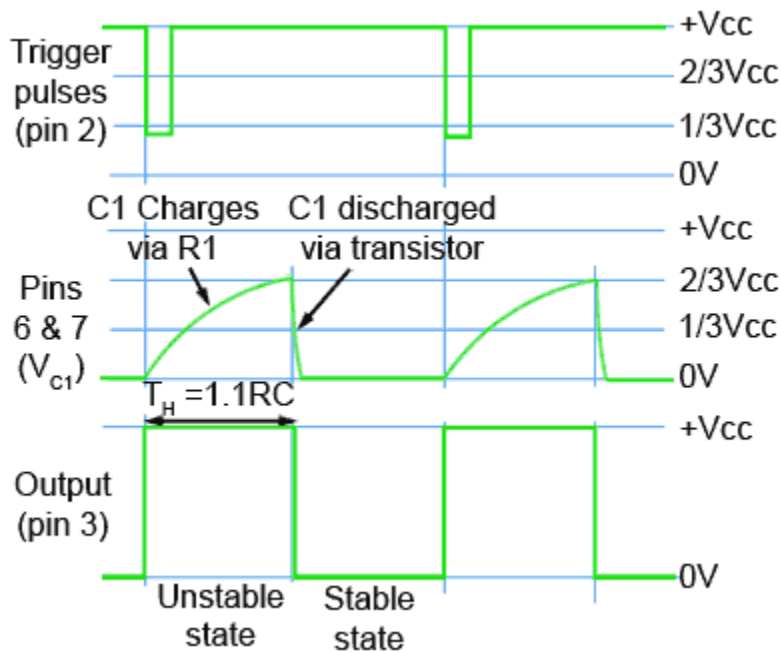

Fig 11. Timing sequence of astable multivibrator
- Figure 11 shows the timing sequence and capacitor voltage wave form.